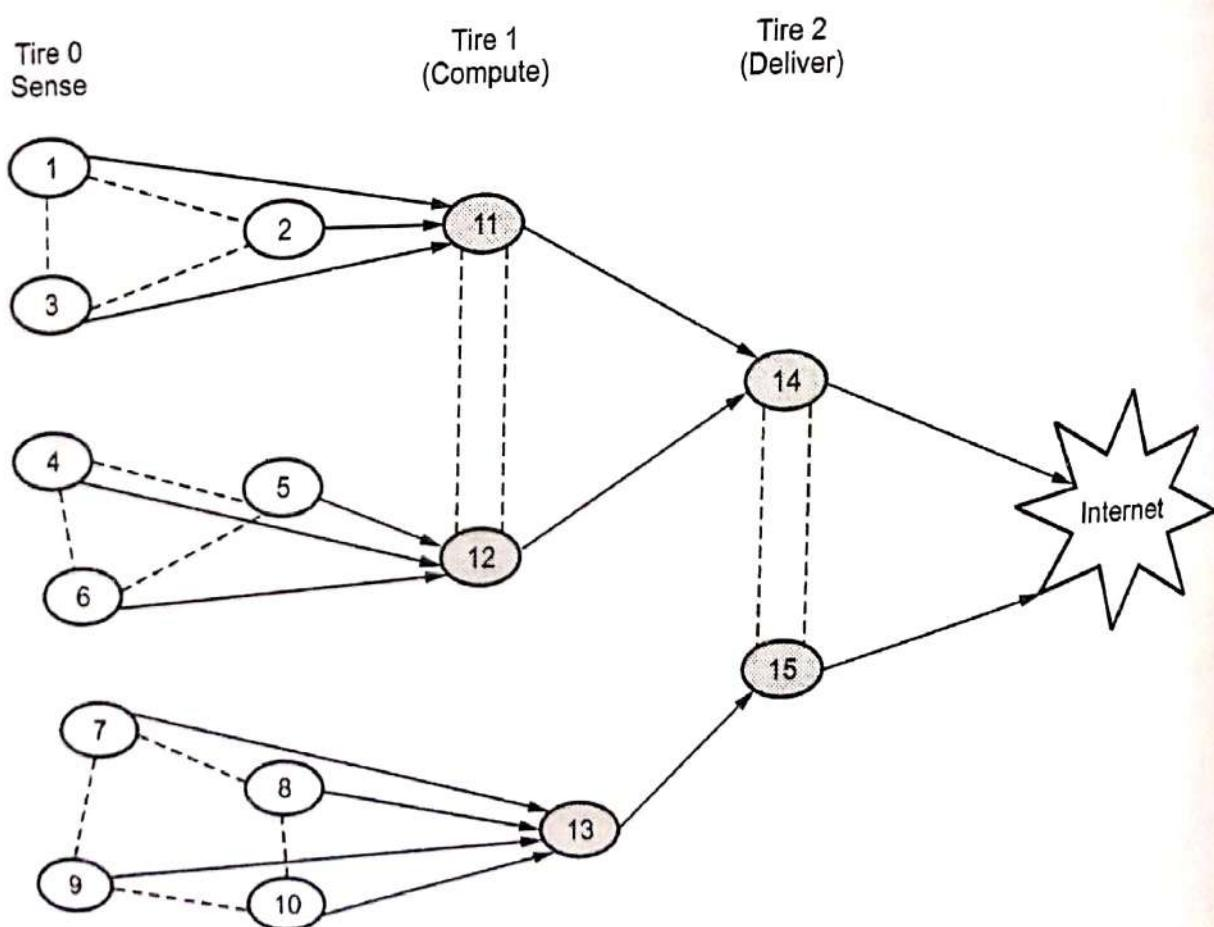

Fig. 1.8.3 : Sensor network architecture
- The development of WSNs was motivated by military applications such as battlefield surveillance. Fig. 1.8.3 shows typical sensor network.